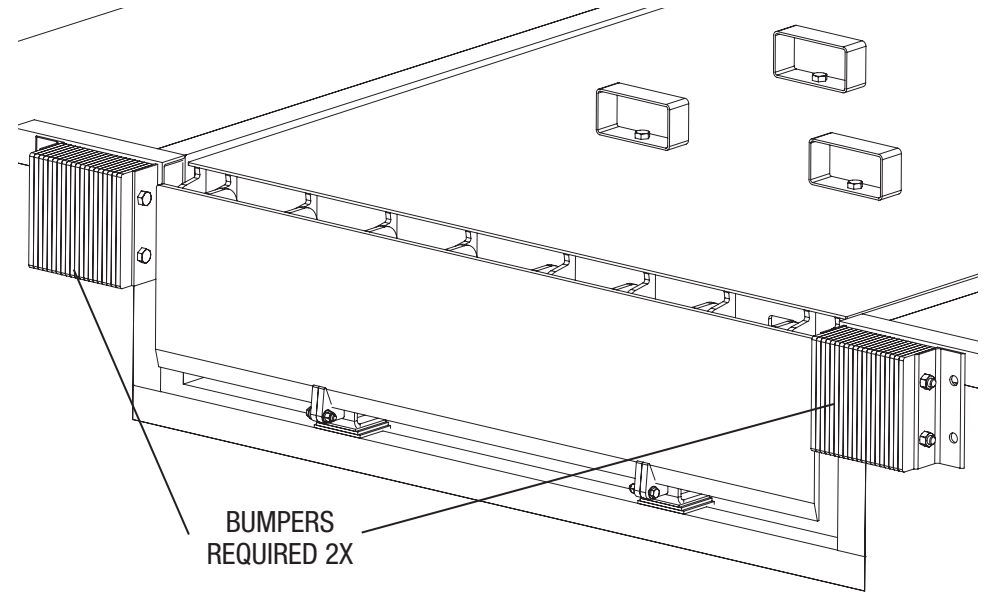
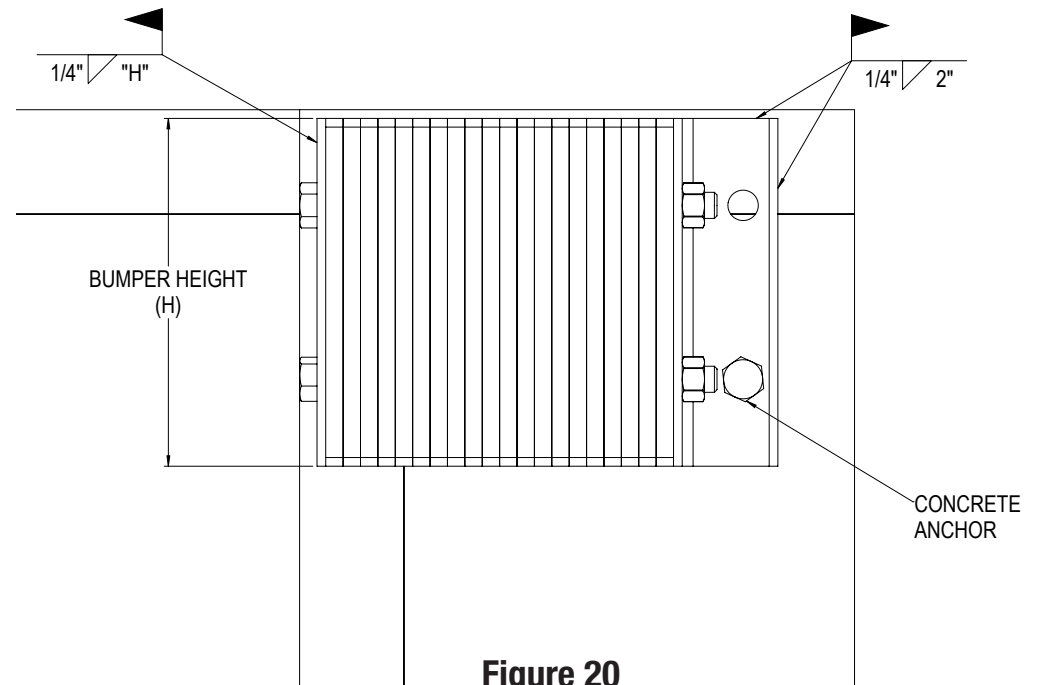

Figure 19
Figure 20
2. Installation will be accomplished by a combination of welding and concrete anchors, as shown in **Figure 19** and **Figure 20**.